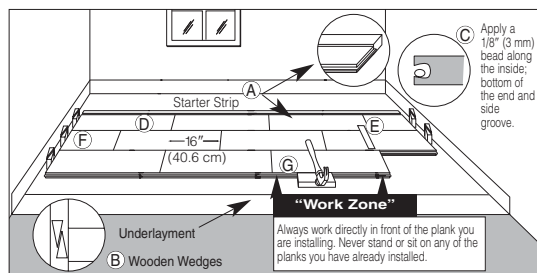

Figure 12
- Complete the first row. Cut the last board allowing for 1/2” (13 mm) clearance between the wall and the floor. (Use the remaining end of the cut board as a starter board for any row following row three). Install a wedge on the end of the board between the hardwood flooring and the wall allowing 1/2” (13 mm) expansion space. Avoid installation of any boards shorter than 16” (40.6 cm) in the first four rows. (Item F, Figure 12).